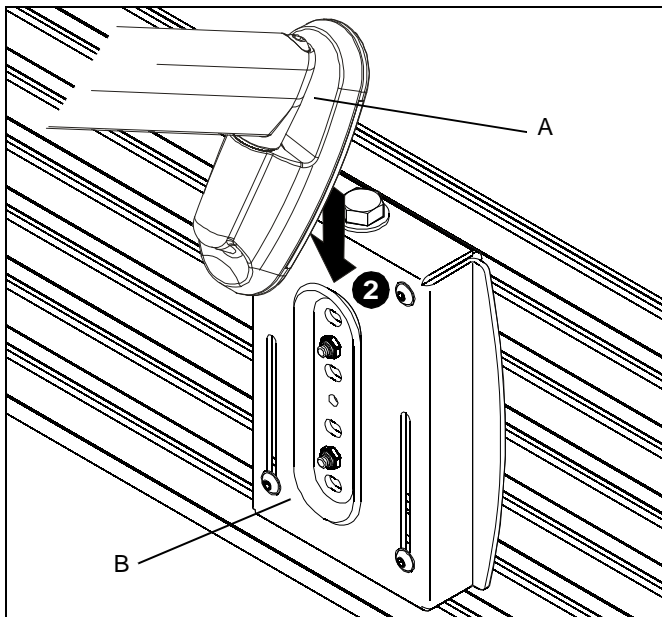

Figure 1
1. Install the slat wall bracket (B) following the instructions included with kit.
2. Insert top of mount (A) over lip on top of wall bracket (B). (See Figure 1)